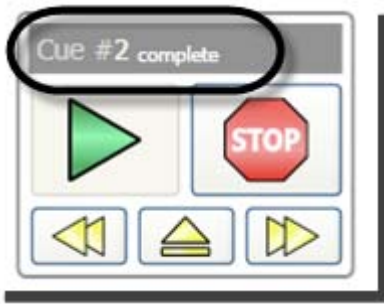

Figure 336
- The Cue Controller in the Stagehand Editing Pane on your screen updates its status text (Figure 336).